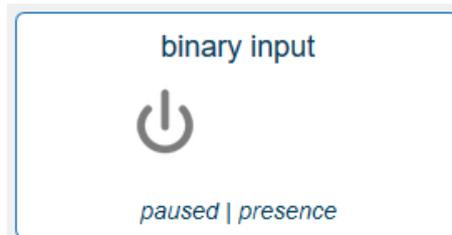

Figure 4.10 Inactive mode.
- **Binary input for presence and sleep mode inactive:** When nor presence or sleep mode are active. In this case, the reported status of the presence sensor will take no effect on the AC unit status or current working mode (See Figure 4.10).